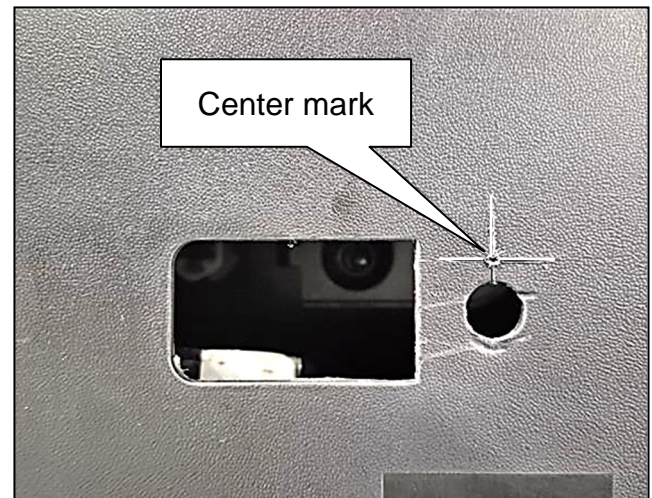

Figure 8
4. Using a tool with a sharp point, mark the center of the new hole to be drilled, as shown in Figure 8.